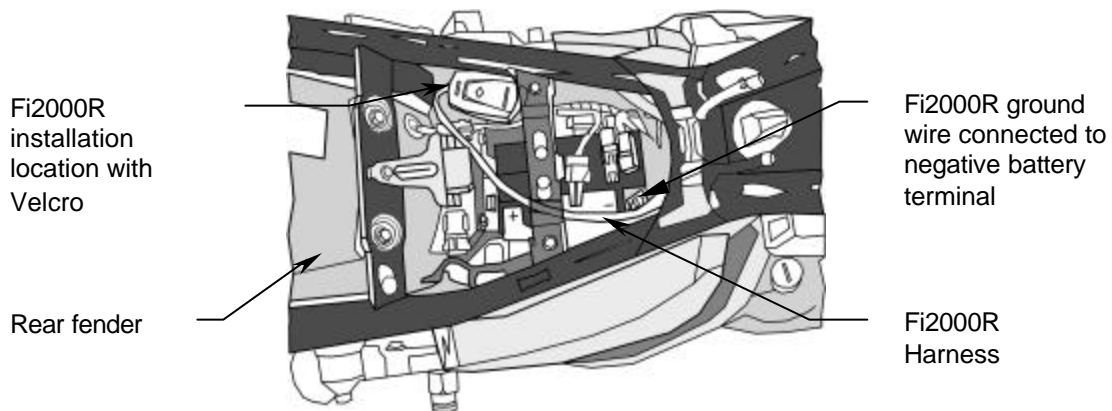

FIGURE 2
4. Ziptie the Fi2000R harness to the stock harness, Figure 2. Replace the fuel tank, making sure all the hoses, wires and bolts are properly reconnected
5. Using the supplied Velcro pads, place the module in the position shown, in Figure 2. Attach the black ground wire from the Fi2000R to the negative post of the battery. Before reinstalling the seat, verify connections.